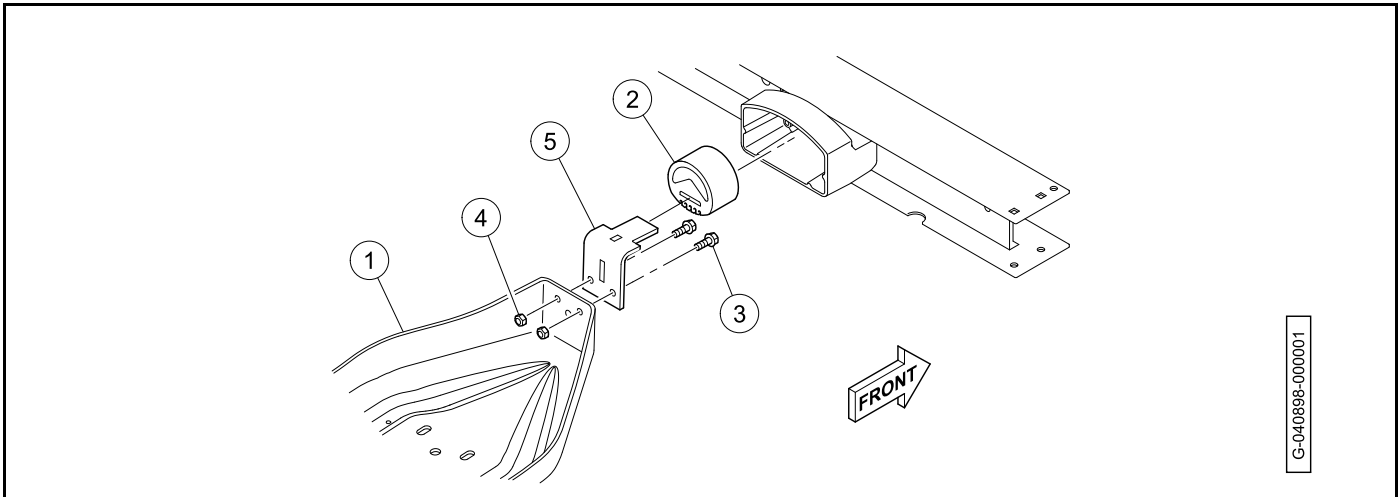

Figure 20-9 Lifted Snubber Shown
1. Support the powertrain with a floor jack under the engine pan (1) so that the snubber (2) is raised slightly and does not rest on the vehicle frame (**Figure 20-9, Page 20-8**).
2. Remove the two bolts (3) and two lock nuts (4) securing the snubber bracket (5) to the engine pan.
1. Slide the snubber (2) onto the snubber bracket (5) (**Figure 20-9, Page 20-8**).
2. Install the snubber bracket and snubber assembly onto engine pan (1).
3. Install the bolts (3) and lock nuts (4). Tighten the lock nuts (4) from 20 to 25 ft·lb (27.1 to 33.9 N·m).